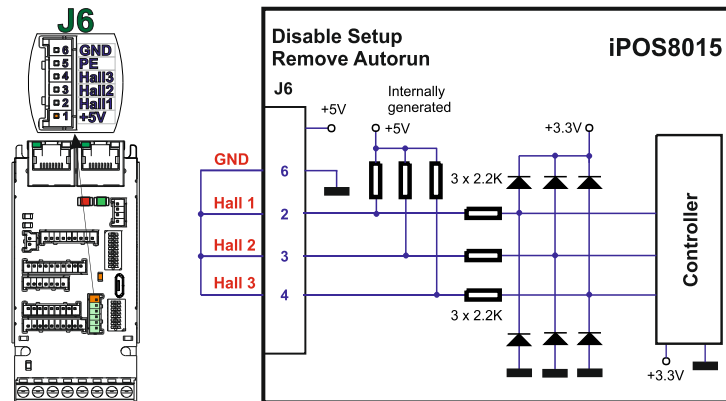

Figure 37. Temporary connection during power-on to remove the drive from Autorun mode or disable Setup
- Temporarily connect all digital Hall inputs to GND during power-on (for about 1 second, until the green LED turns on), as shown in **Figure 37**.